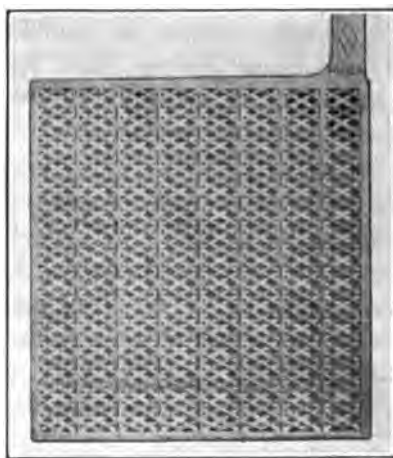

Fig. 453. Lead Grid Ready for Active Material
**Parts of Cell. Elements.** These are known as the positive and negative plates and correspond to the positive and negative electrodes of a primary battery. They consist of a foundation composed of a casting of metallic lead in the form of a grid, the outer edges and the connecting lug being of solid lead, while the remainder of the grid is like two sections of lattice work so placed that the openings do not correspond. Every manufacturer has different patterns of grids, but this description will apply equally well to all of them. Fig. 453 illustrates the grid of the Philadelphia battery. The object in giving them this form is to make the active material of the plates most accessible to the electrolyte, or solution, of the battery, and at the same time to insure retaining this active material between the sides of the grid.